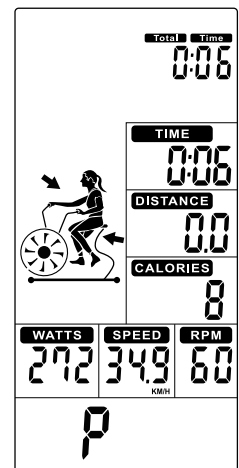

Fig. 4
*A signal sounds for 1 second and the values for TOTAL TIME, TIME, DISTANCE, CALORIES are counted up. Also the values for WATTS, SPEED, RPM and PULSE are shown (Fig. 4).*
- + If no pulse signal is received, PULSE shows P (Fig. 4).